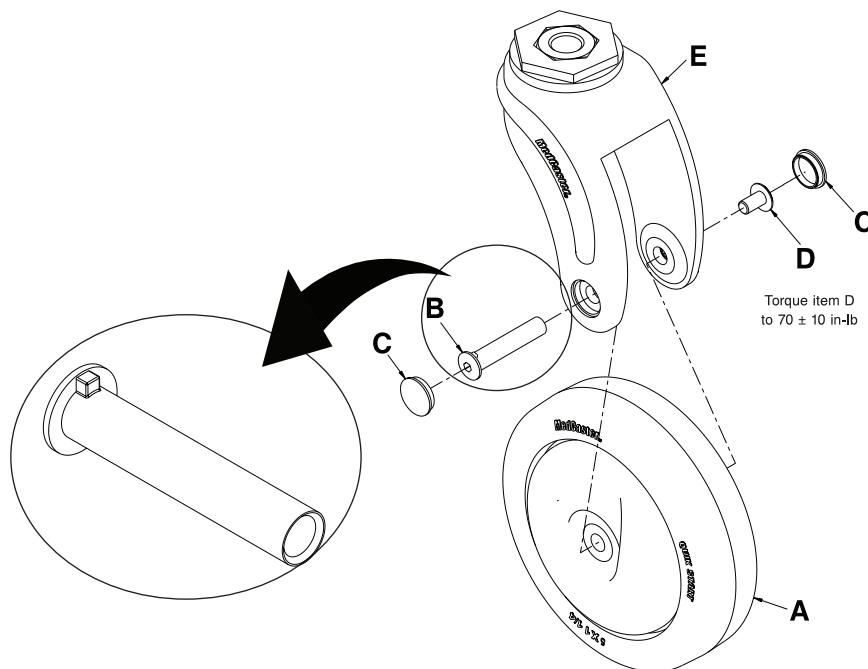

Figure 1-25: Front caster wheel replacement
2. Using a pick, remove and save the caster wheel axle barrel nut covers (C) (Figure 1-25 on page 1-41).
3. Using two 5/32" hex wrenches, remove the axle barrel nut (B) and axle screw (D). Save the axle barrel nut and axle screw. When reinstalling the axle screw, use a 3/8" drive torque wrench to torque the axle screw (D) to  $70 \pm 10$  in-lb.
4. Grasp the caster wheel (A) and pull outward to remove the wheel from the fork (E). Discard the wheel.
**Note:** The axle barrel nut (B) head is keyed (Figure 1-25 on page 1-41). Properly align the nut in the caster fork (E) during reinstallation.